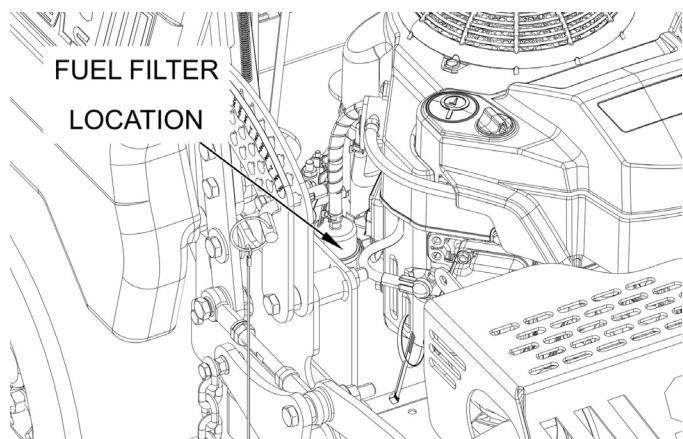

Figure 7-9. Fuel Filter Location
3. Install a new fuel filter. Ensure the filter is installed facing the proper direction. Secure the fuel filter to the fuel hose line using the two clamps. See Figure 7-9.